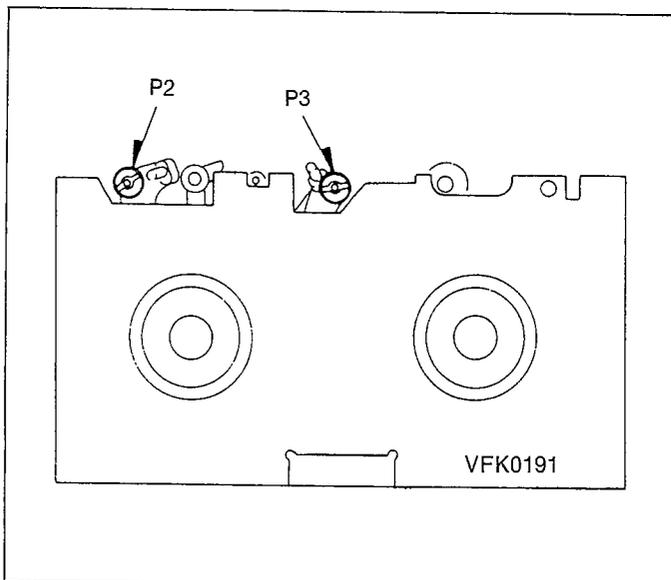

Fig. M12
- Place the Post Adjustment Plate over the reel tables. Confirm that the Post Adjustment Plate is firmly seated as shown in Fig. M12.